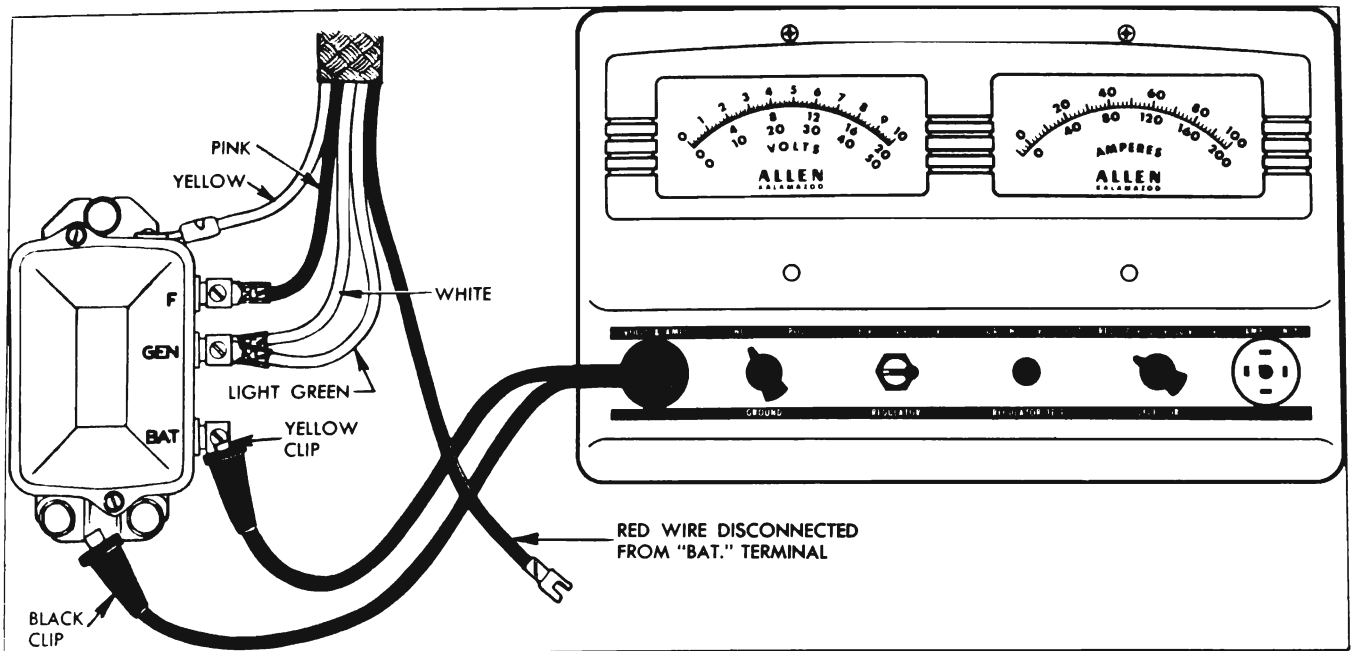

Figure 10-19—Current Regulator Test Connections—Allen Tester
16. Remove the  $\frac{1}{4}$  ohm resistor. **CAUTION:** *Do not allow the disconnected battery (red) wire to touch ground on car.* Turn the "SELECTOR" switch to the "REG" position. See figure 10-19.